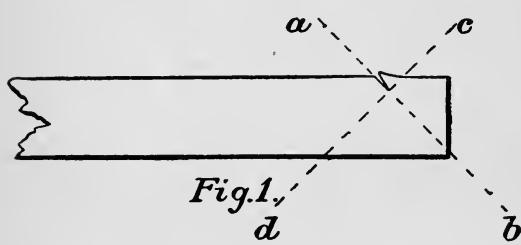
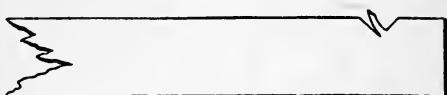

Fig. 1.
Fig. 3.
cut deeper. You can do this if you proceed a little differently. Begin again on the opposite face of the stick, at the same distance from the end; but this time, instead of pressing squarely against the side of the piece, press obliquely in the direction of the line *a b*, Fig. 1.*
* The crooked lines at the end of the drawing in Figs. 1, 2, 3 mean that the portion of the object to the left of such lines is left out as unnecessary. Similar lines are shown in Figs. 32, 45, and others.
Next place the knife a little to the left of the notch, and cut in the same direction as at first. You will turn up another chip, as in Fig. 3. You easily cut off this chip by cutting in the second direction (*c d*, Fig. 1), and can even, at the same time, by making this cut a little to the right, widen and deepen the notch. Repeating these operations, you may cut half-way through the stick.